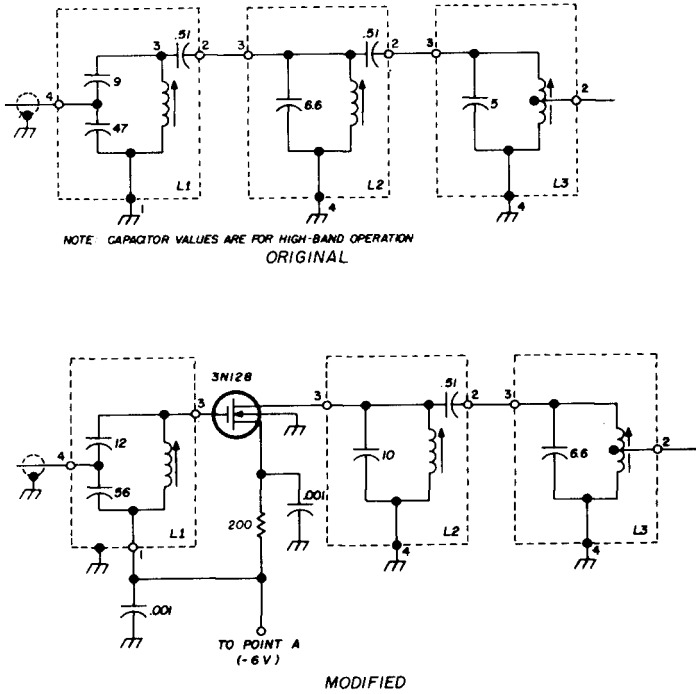

fig. 1. P-33 receiver front-end modifications per W1RYL. Before and after circuits are shown in A and B.
27. Run a wire from L1 pin 1 to point A (see **fig. 1**). (Point A is between L11 and L9.)